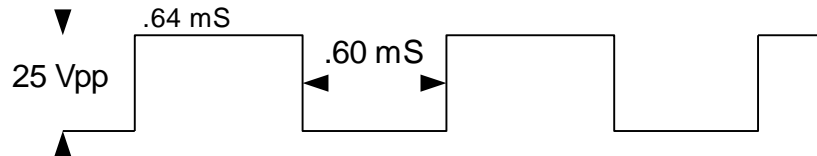

FIG.3
- Connect Oscilloscope to TB1 (-) and TB2 (+), verify the signal in figure 3.